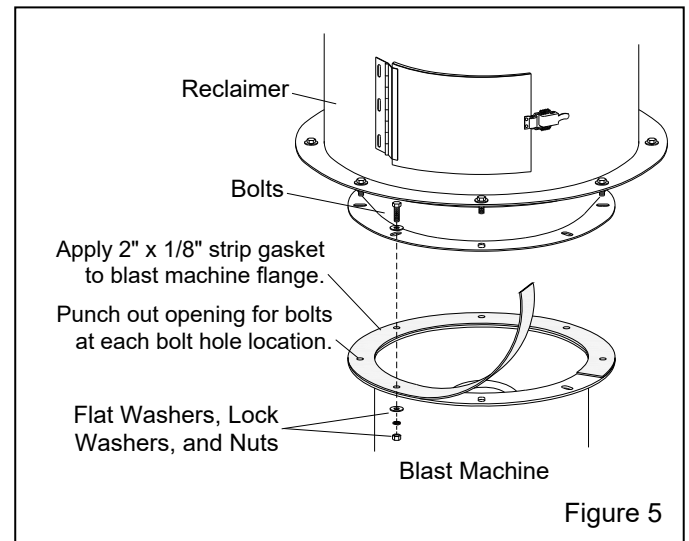

Figure 5
2.2 Assemble Blast Machine and Reclaimer Figure 5